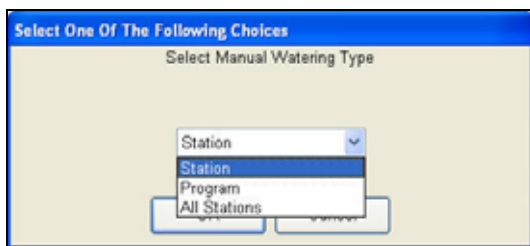

Figure 7.3.2
1. Select a watering type. Click **OK** (Figure 7.3.2).